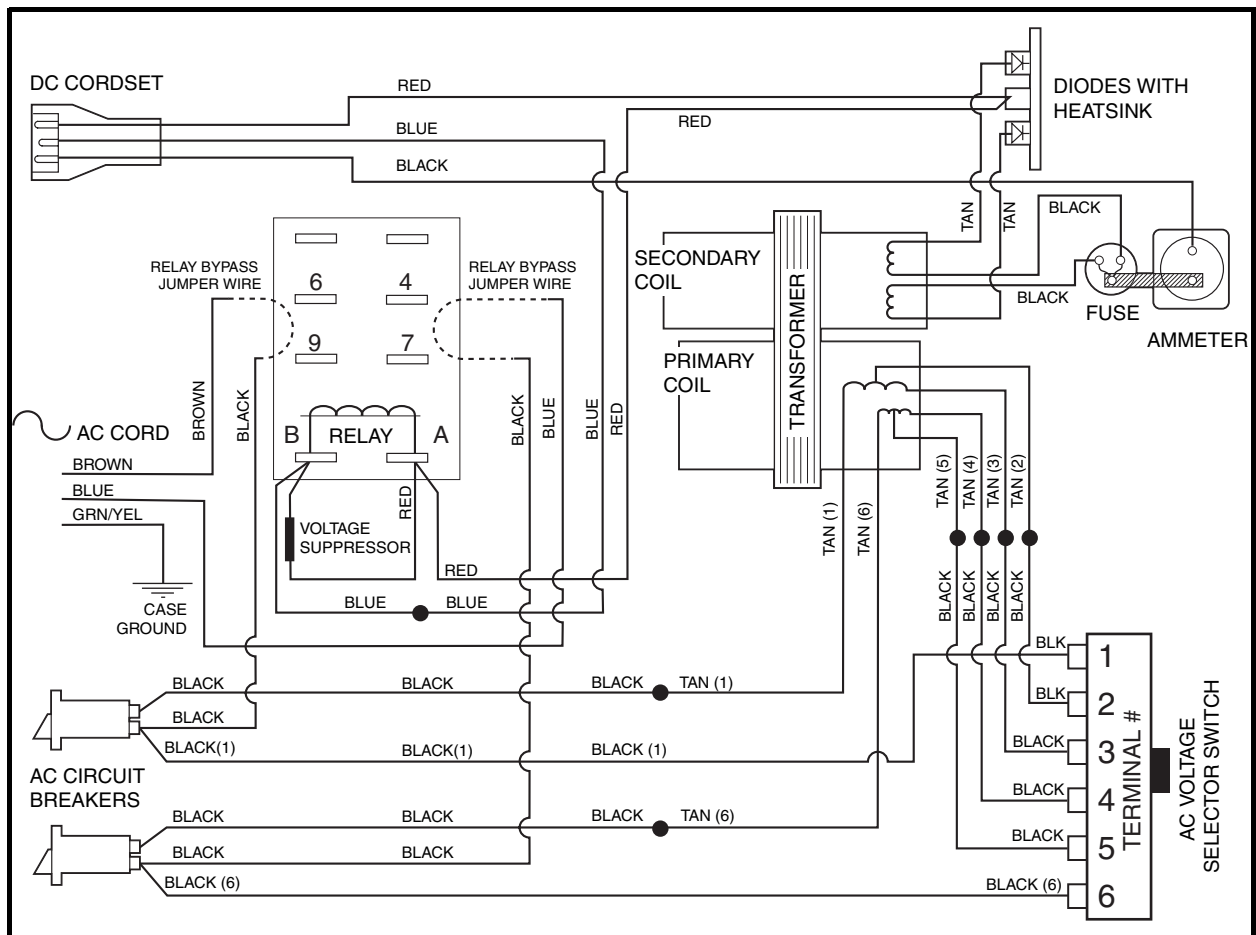

Figure 3-31 Export PowerDrive Charger Wiring Diagram (Relay Bypassed)
- 4.1. To bypass the relay, locate the black wire that goes from the circuit breaker to terminal 9 on the relay. Disconnect the black wire from the relay terminal (**Figure 3-31, Page 3-38**).
- 4.3. Use a jumper wire with alligator clips to connect the black wire from relay terminal 9 to the brown wire from relay terminal 6 (**Figure 3-31, Page 3-38**).
8. Disconnect the jumper wires from the relay wires and connect each wire to the original terminal on the relay (**Figure 3-31, Page 3-38**). **See following WARNING.**